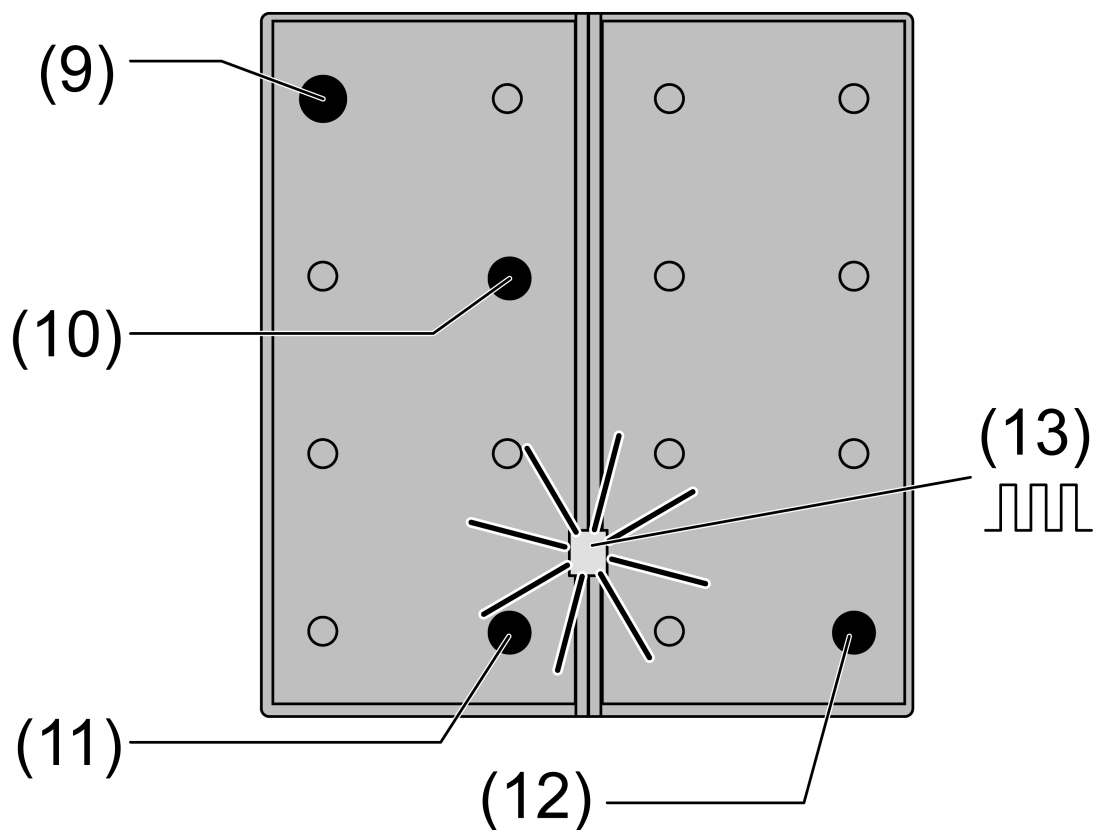

Figure 7: Activating programming mode
- Press and hold the button at the bottom left and the button at the bottom right (see figure 7), depending on the device version (1 ... 4-gang).
- Press and hold the button at the top left and the button at the bottom right (see figure 7) for more than five seconds until the operation LED flashes quickly (approx. 4 Hz), depending on the device version (1 ... 4-gang).